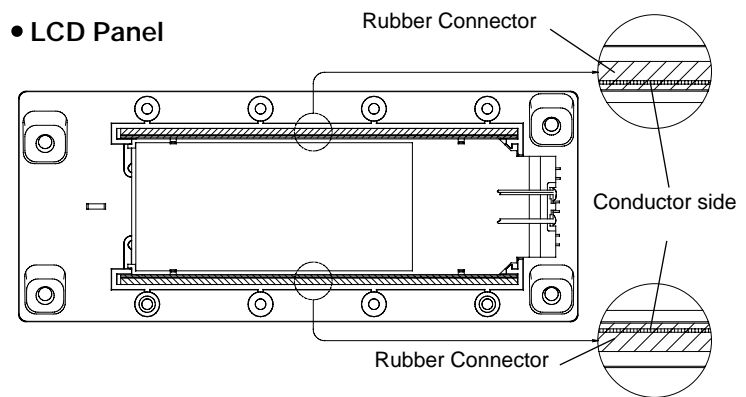

Fig.6
- * When re-install the rubber connector, place it so that the conductor faces the inside. (Fig.6)